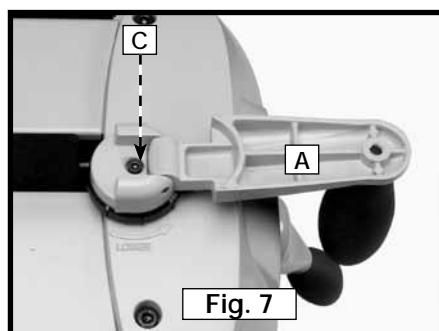

Fig. 7
2. Fasten the cutterhead adjustment handle (A) Fig. 7 to the shaft using the M5-16 mm hex socket-head screw (C) with the hex end of the supplied cutterhead wrench.